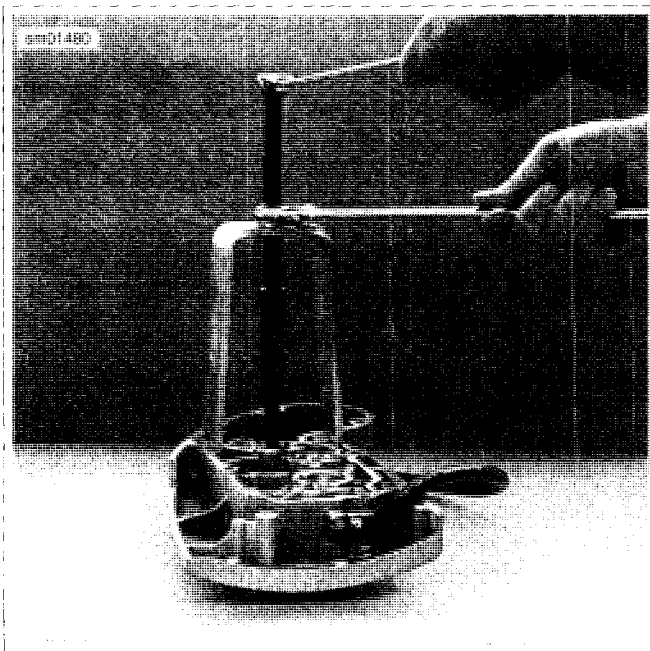

Figure 3-107. Removing Cam Bushing from Gearcase Cover
2. See Figure 3-107. Use BUSHING AND BEARING PULLER (Part No. HD-95760-69A) to remove bushings from gearcase cover and crankcase.